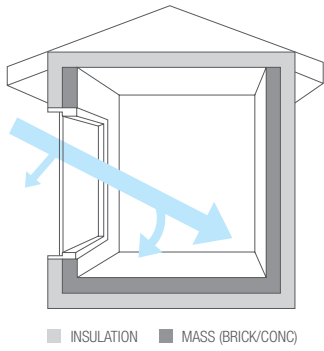

Fig. 2 Direct gain system
- Passive Systems use convection, conduction and radiation for all heat flows (Figs 2, 3).